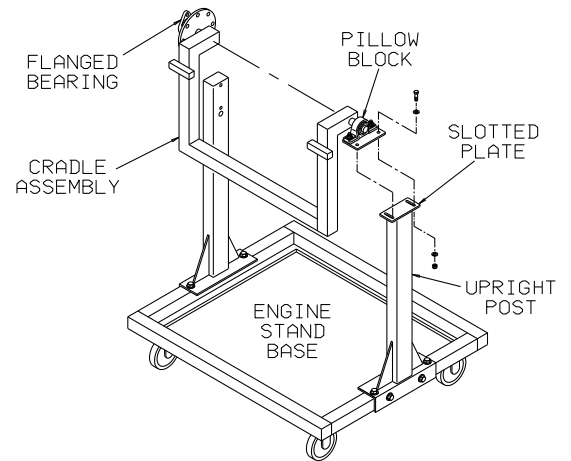

FIGURE 5
6. Install the cradle/bearing assembly onto the engine stand base by temporarily resting the pillow block onto the upright post as shown in **Figure 5**. Secure flange bearing end of cradle assembly to opposite upright post using two (2) bolts, nuts and washers provided with the flange bearing unit.
7. Secure the pillow block end of cradle assembly to slotted plate on upright post of base using two (2) bolts, nuts and washers provided (see **Figure 5**).